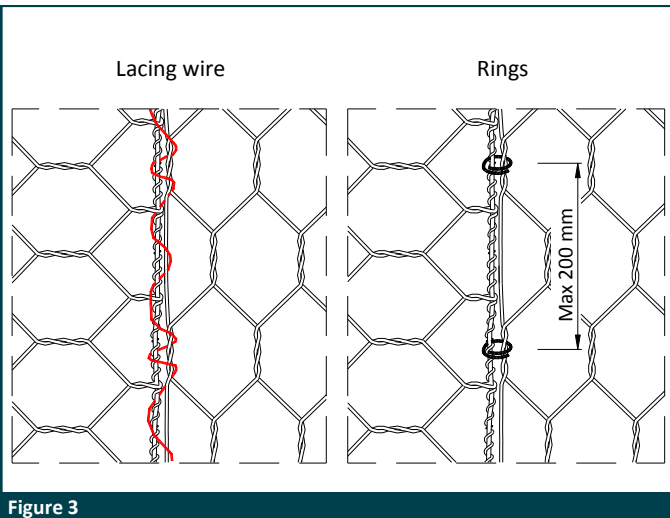
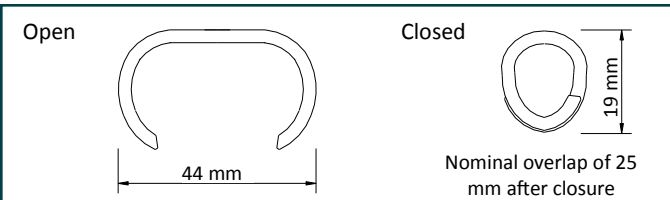
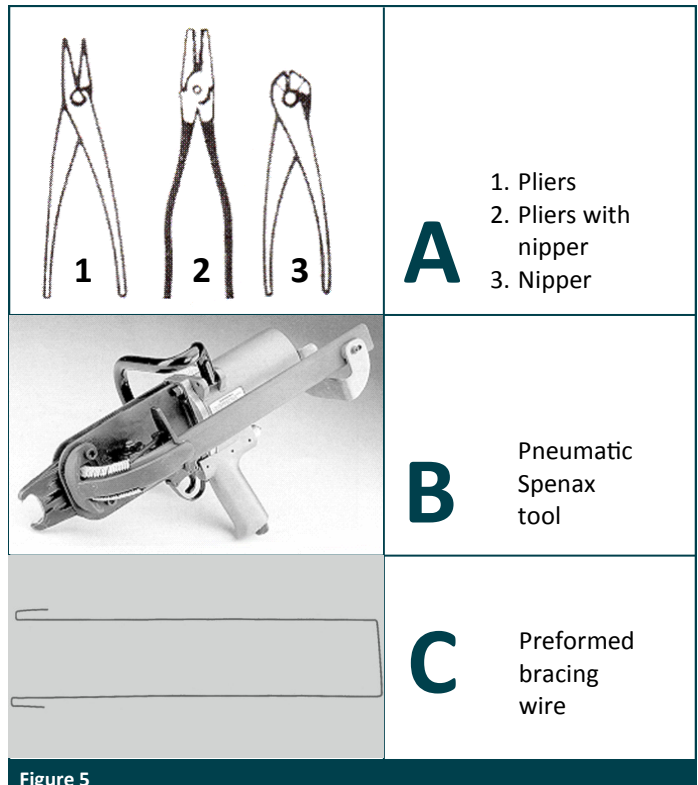

Figure 3
Figure 4
Figure 5
Lacing wire or specially pre-formed bracing wire shown in Fig. 5. having wire diameters to those listed in Fig. 3. shall be used in accordance with the Maccaferri Installation Guidelines to prevent dis-
Lacing operations can be made by using the tools shown in Fig. 5. Stainless steel rings having the following specification can be used instead of lacing wire (Fig.4):
- Spacing of the rings must not exceed 200 mm (Fig.3)